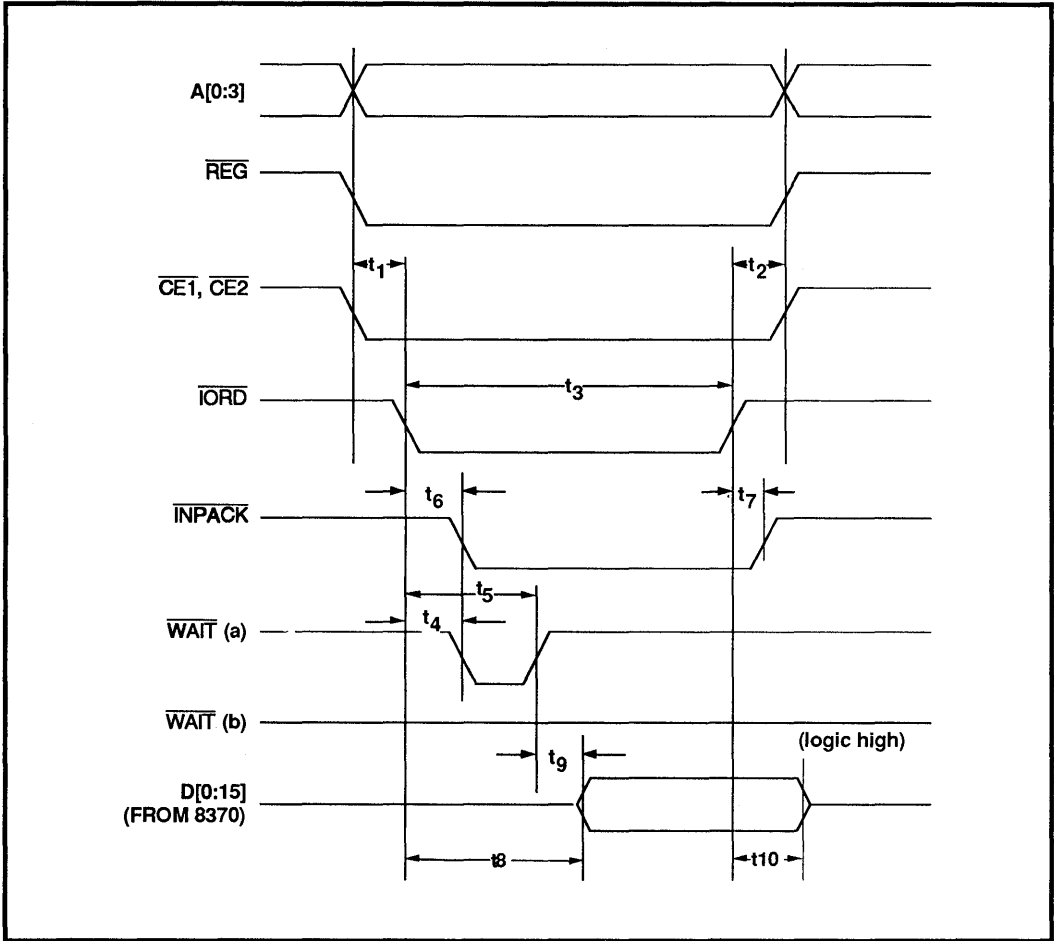

FIGURE 4: I/O Read Cycle (PCMCIA mode)
**TABLE 3: I/O Read Cycle (PCMCIA mode) (Refer to Figure 4)**